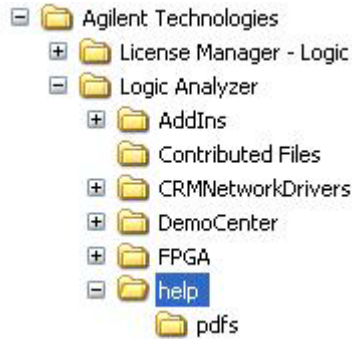

Figure 4 Location of U4998A Documents
- **U4998A HDMI 1.4a Protocol/Audio/Video Analyzer and Generator Online Help** - This online help is accessible as a standalone help from the help folder displayed in the Figure 4 or from the Agilent Logic Analyzer GUI (as an integrated help). It describes how to configure, control, and use the U4998A hardware to perform HDMI testing in various scenarios. It describes the usage of GUIs as well as COM interfaces to accomplish various HDMI testing tasks.